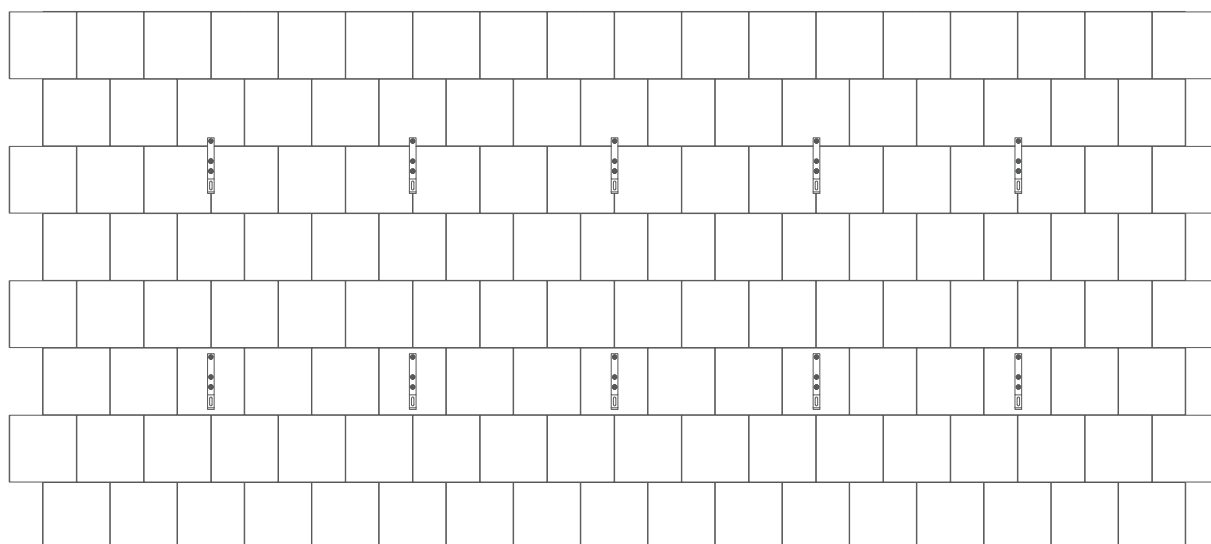

Fig. 3. determination of the mounting location for load-bearing structural supports.
- 2 On the roof, identify the batten to which the supporting structure of the photovoltaic photovoltaic modules should be attached (Fig. 3).